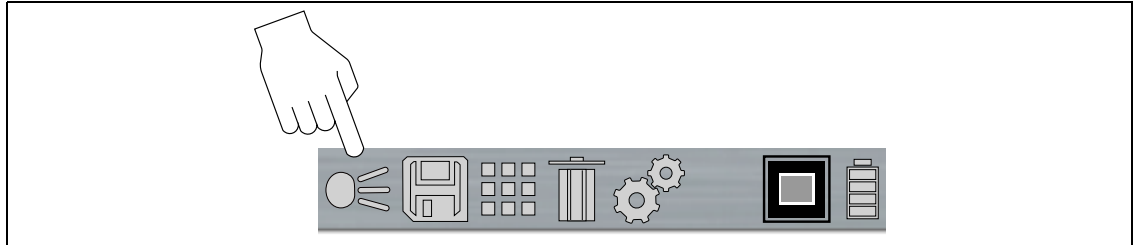

Figure 4-12
3. Select the **Delete** icon from the toolbar (Figure 4-12), then press the **Y** button to delete the image.
Select the spotlight icon in the toolbar (Figure 4-12), then press the **Y** button to turn the LED spotlight ON/OFF.